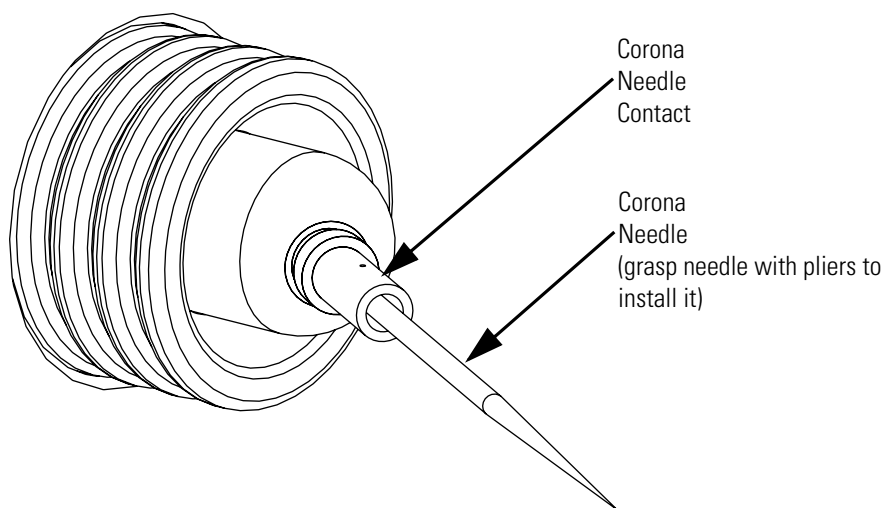

Figure 51. Corona needle, view from inside of the Ion Max housing
1. Using pliers, grasp the needle by the corona needle contact and push the needle straight into the needle socket in the Ion Max ion source housing. See Figure 51.